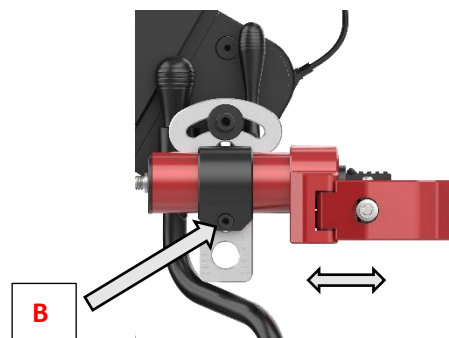

Figure 34. Showing the Depth adjustment of the Clamp mechanism in relation to the device.
**Attention.** The recommended Torque setting of this angle and depth adjustment Bolt B is 25 Nm (Newton Meters). See Fig 34 above.